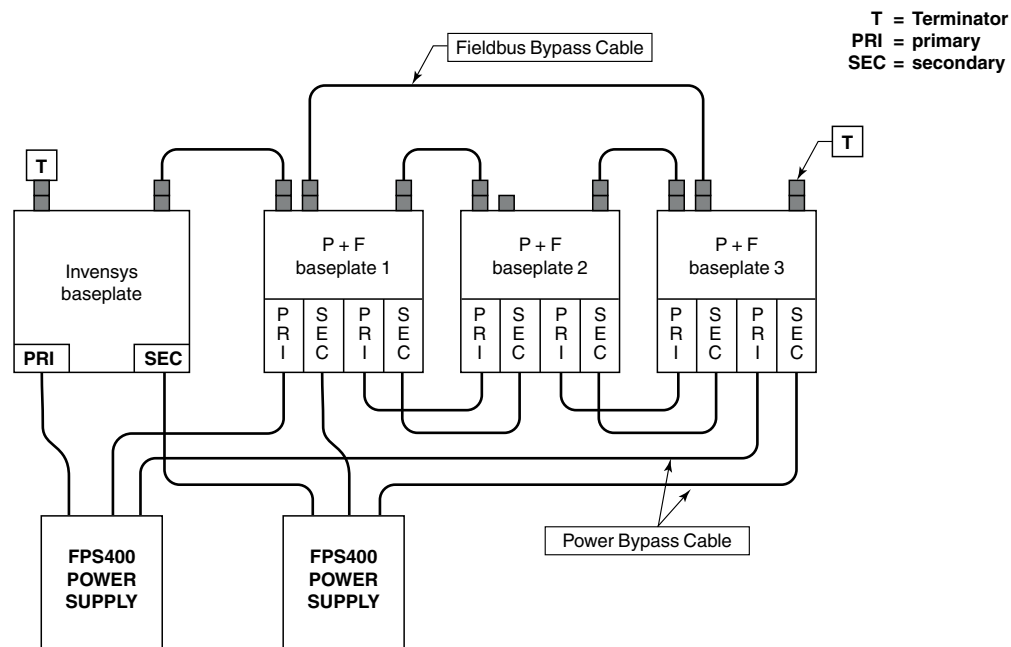

Figure 1-6. Bypass Connection for Second (Or Higher Number) ISTA-*BP* Baseplate
1. Ensure that a Terminator is added to the Invensys baseplate as shown in Figure 1-6.
5. Install the power bypass cables as shown in Figure 1-6.
1. Install the fieldbus bypass cable as shown in Figure 1-6.
2. Install the power bypass cables as shown in Figure 1-6. When installing power bypass cables, ensure that the primary power goes to the power source and the secondary power goes to the secondary source.